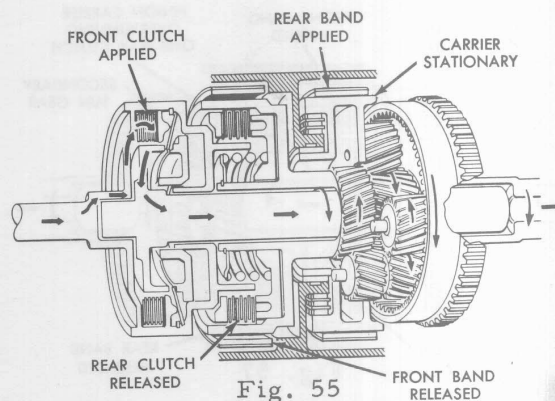

Fig. 55
- ⊗ In first speed with the selector lever in Low position, the primary sun gear is driven and the pinion carrier is held stationary by the rear band (Fig. 55). Power is transmitted to the primary pinions, the secondary pinions, and the internal gear. The internal gear is thereby driven in the same direction as the primary sun gear. The secondary sun gear rotates freely in the reverse direction and has no effect on the gear train.